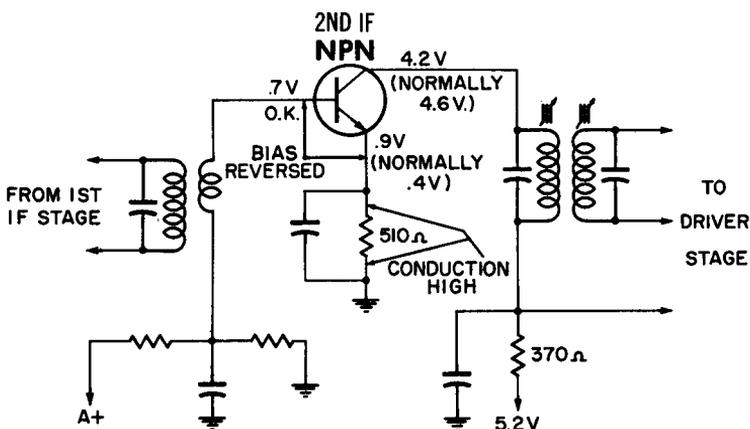

Fig. 10-1. Abnormal voltages in this stage are caused by a leaky transistor.
*Result*—The 1st IF stage measured all right, but the 2nd IF transistor had incorrect conduction and bias voltages (see Fig. 10-1).